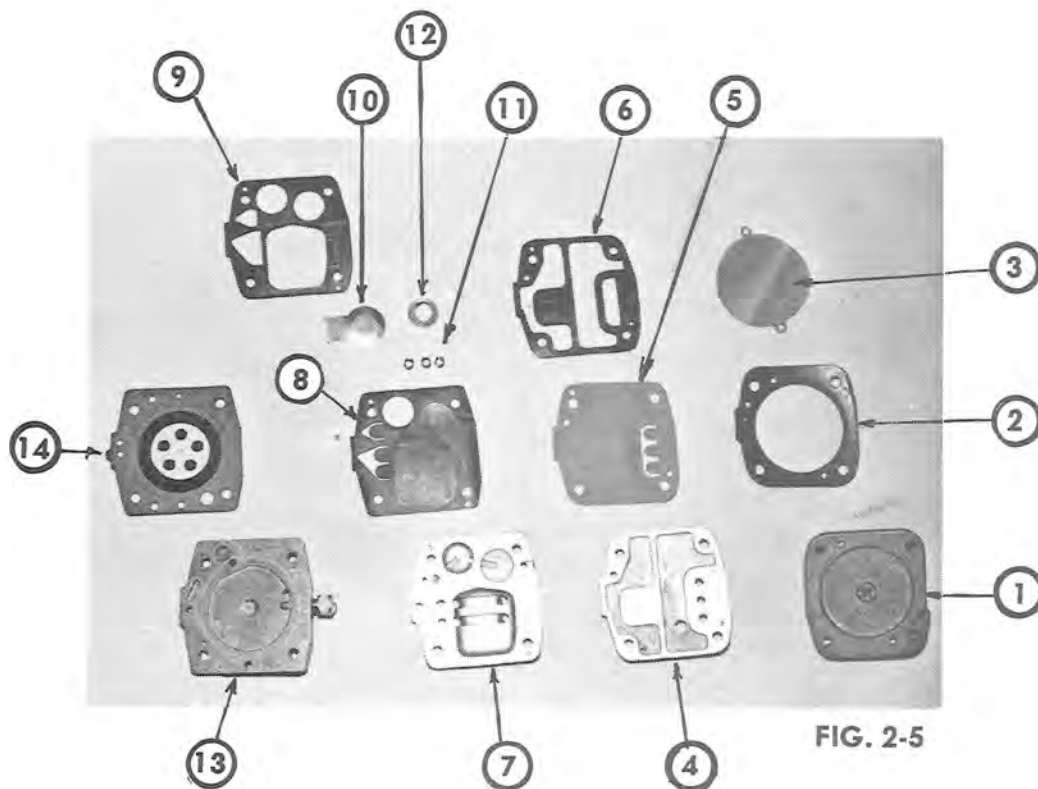

FIG. 2-5
To remove the plates, gaskets and diaphragms from the lower part of the carburetor body, remove the four mounting screws. Lay each part on a clean surface in the sequence removed. (See FIG. 2-5)
5. Foreign matter under umbrella check valve.	5. Blow through screen on opposite side of Plate #13. (See FIG. 2-5) Umbrella check valve is orange colored rubber plug.